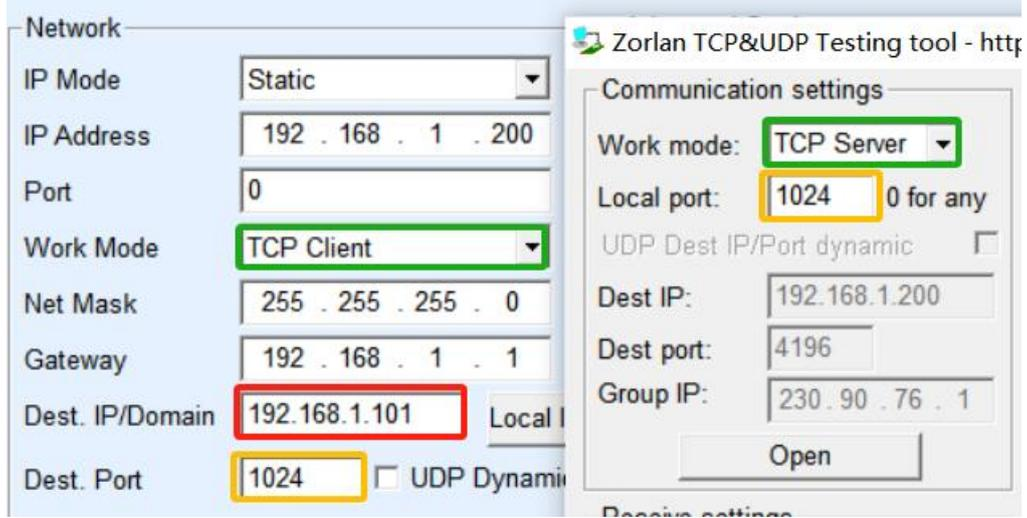

Figure 26 Serial server as client
When the serial server is the client, there must be three mappings, as shown in Figure 26. (1) Working mode: The working mode of the serial port server is the server mode of the network tool corresponding to the client. (2) IP address: The destination IP address of the serial port server must be the IP address of the computer where the network tool is located. (3) Port: The destination port of the serial port server must be the local port of the network tool. After this setting, the serial port server can automatically connect to the network tool and send and receive data after the connection is established.